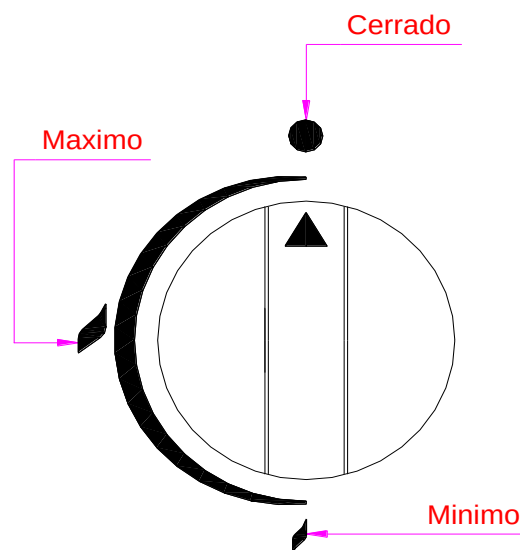

Fig. 3
- Press in the control of the required burner and make a quarter turn anti-clockwise until the "maximum" position is reached (**Fig. 3**).
- To set the control to "minimum", turn the control anticlockwise from the "maximum" position until reaching the "minimum" one, without pressing (**Fig. 3**).